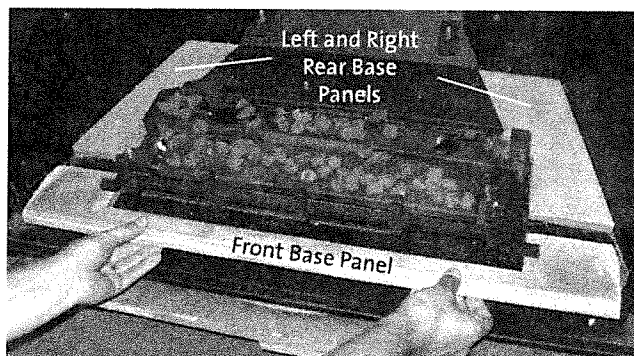

Figure 6.8 ATRA Burner ONLY: Install the Burner Base panels before installing the firebox panels.
1. Drop the Left and Right Rear Base panels into position behind the burner. Slide the Front Base Panel into position under the steel grate. Fig. 6.8